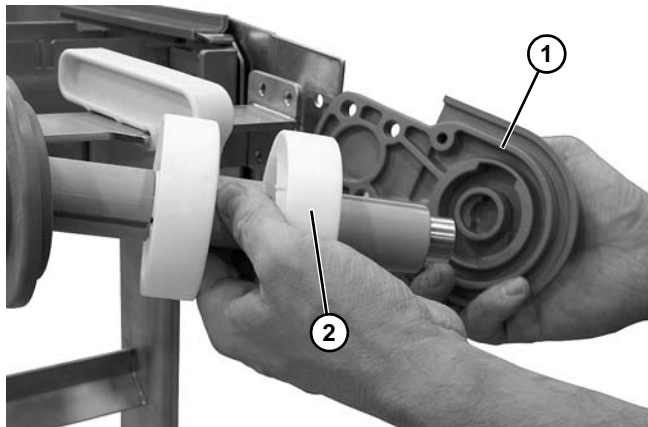

Figure 64
3. Remove headplate (Figure 64, item 1) and idler spindle assembly (Figure 64, item 2).